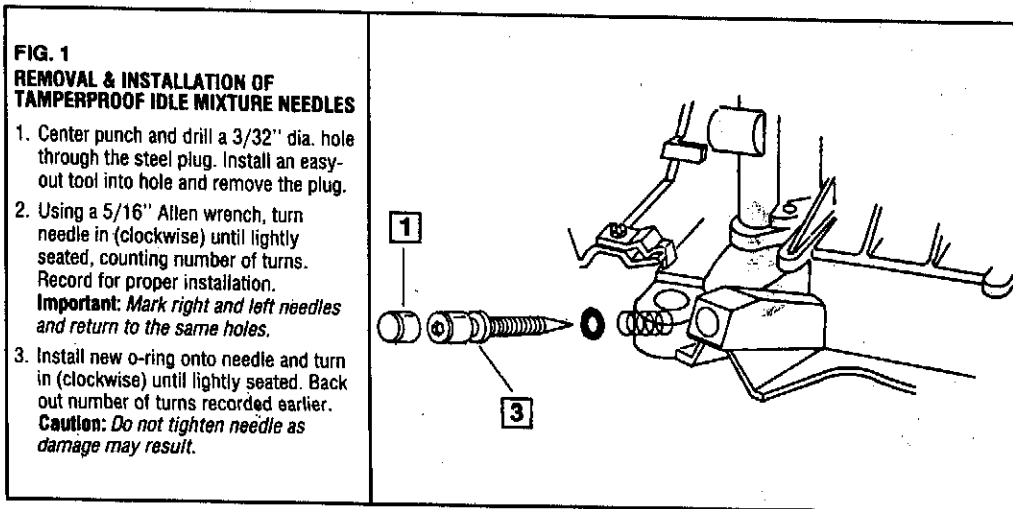

FIG. 2
6. Refer to Fig. 2 for installation of discharge nozzle screw (61).